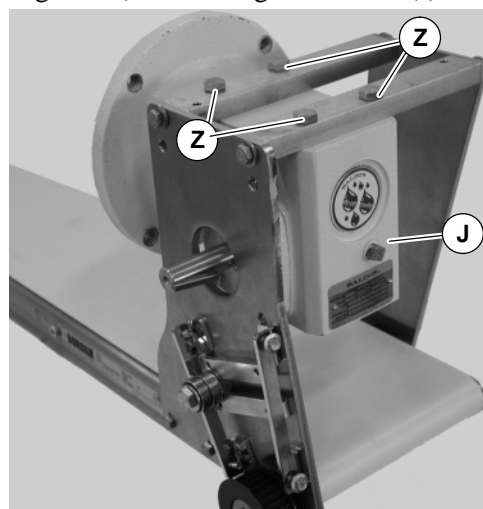

Figure 28
5. Remove four (4) gear reducer mounting screws (Z of Figure 28). Remove gear reducer (J).